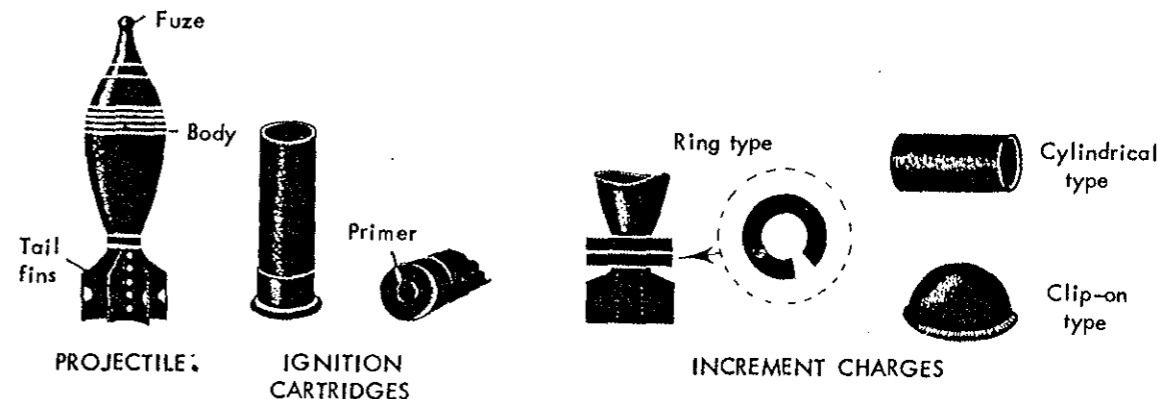

Figure 56.
... ammunition usually consists of three main component parts, as shown in figure 56. These are: (1) the fuze; (2) the body and tail fin assembly; and (3) the propellant charge. The propellant charge consists of the ignition cartridge and possibly one or more increment charges.
The ignition cartridge (fig. 56) is inserted into the tail of the shell, which is loaded into the mortar, first, from the muzzle. The striker at the base of the mortar tube meets the primer in the base of the ignition cartridge. Flash from the ignition cartridge passes through holes in the tail to ignite the increment charge which are attached to the tail fins to give additional range.
2. Shell Body (fig. 56).
3. Propellant Charge (fig. 56).